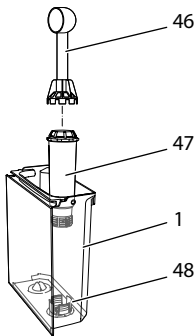

Fig. 25: *Screwing/unscrewing the water filter*
- Remove the water filter when the appliance requests you to do so (see Fig. 25, page 57).